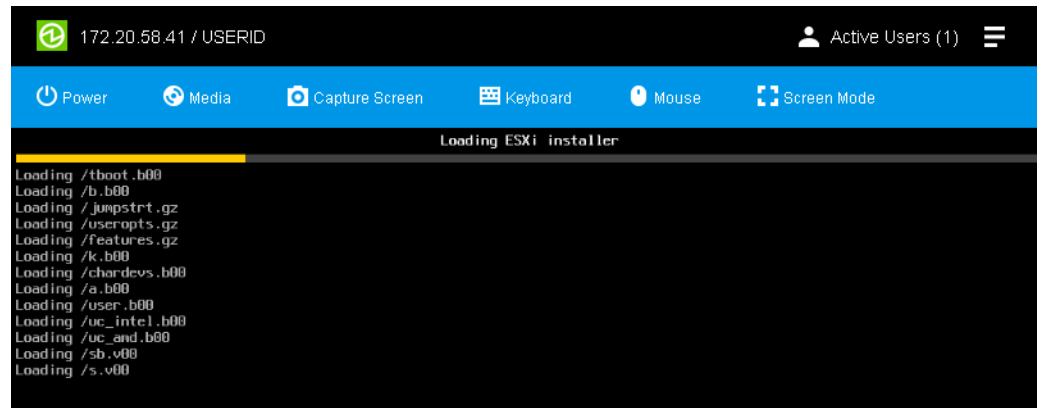

Figure 6-19 OS install
10. The Operating System will begin to load as shown in Figure 6-19. Follow the prompts of the OS installation to complete the install.